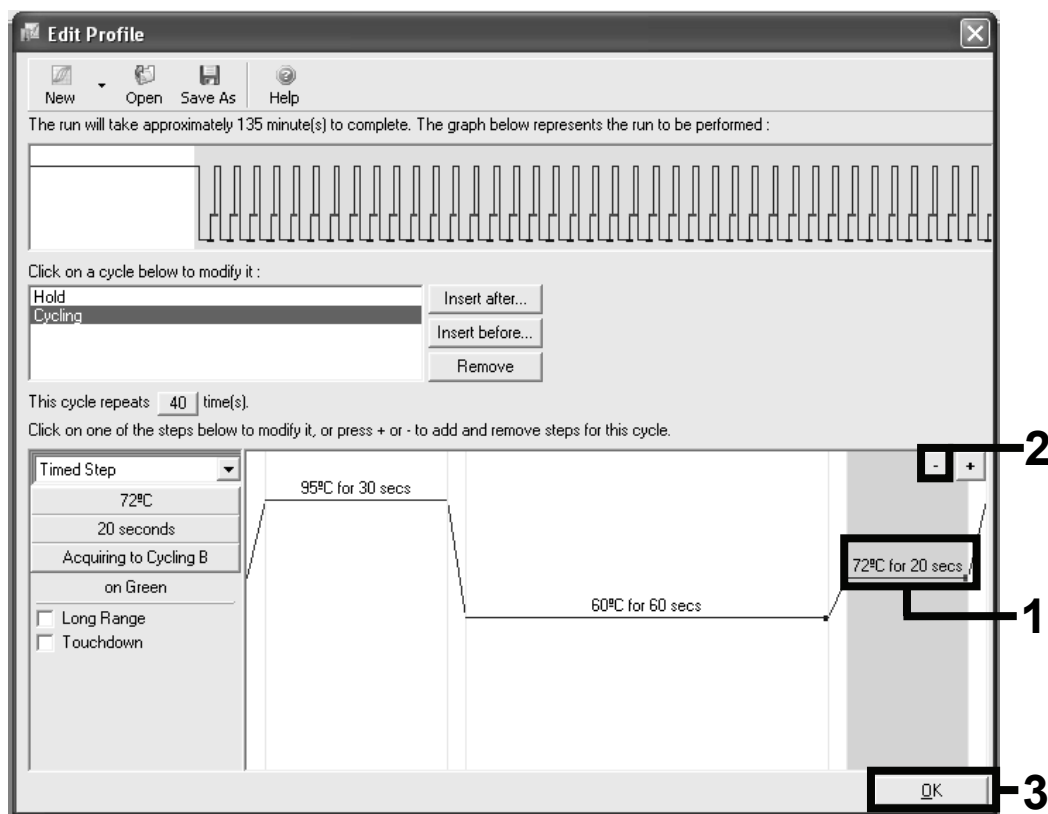

Figure 9. Removal of extension step.
18. Highlight “72°C for 20 secs” and delete this section, then click “OK” (Figure 9).